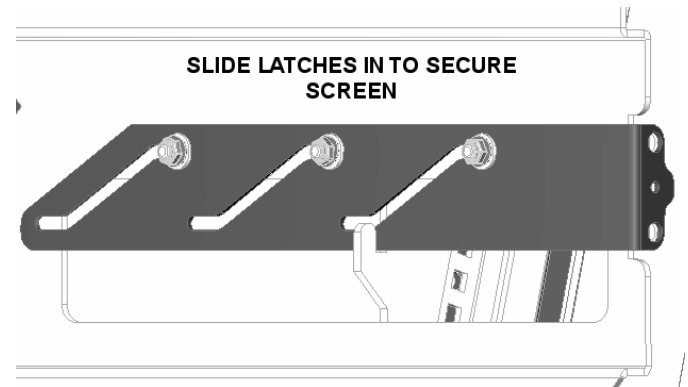

Figure 10. Slide Latches to Secure Display
3. Slide the safety latch on both sides of the wall plate to secure the display, making sure the latches are completely engaged (see Figure 10). Note: Screws may be inserted for added security.